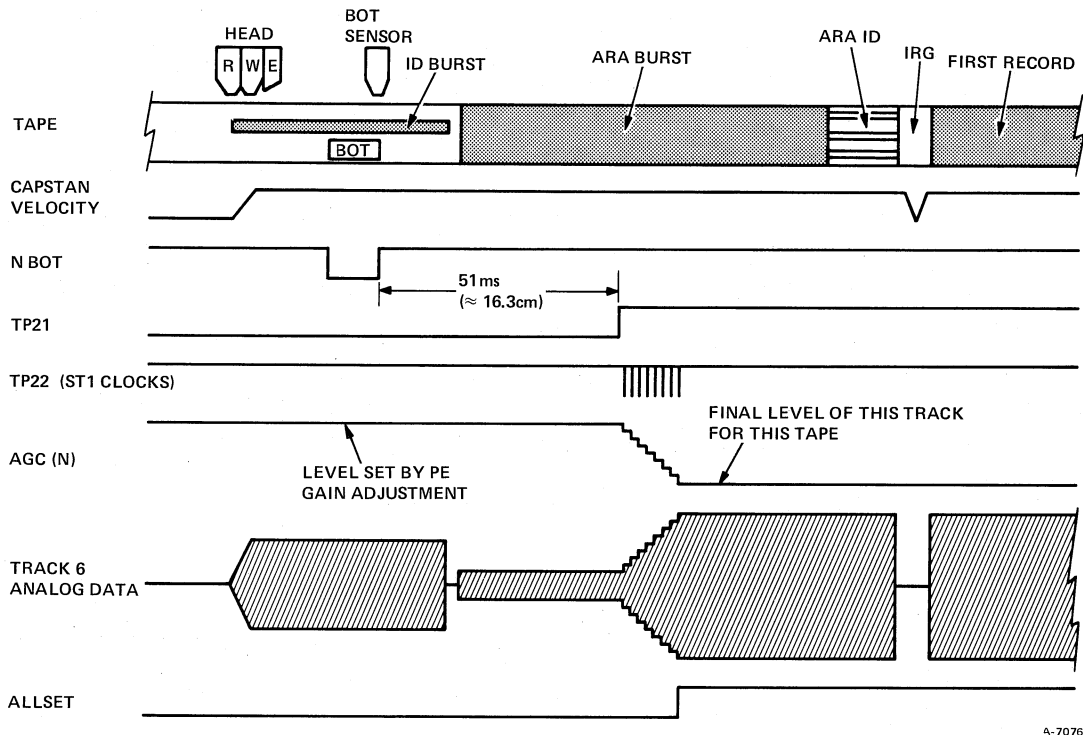

Figure 5-36 AGC Timing
5.11.5.3 Automatic Gain Control (AGC) Circuits – The read PCBA AGC function is initiated and controlled by circuits shown on Sheets 3 through 6 of Schematic Number 107855. Refer to Figure 5-35 for a simplified functional block diagram of the AGC circuitry. Figure 5-36 shows the timing sequence for AGC setup relative to information recorded at or near the BOT marker on a GCR tape. If unfamiliar with GCR recording formats, refer to Paragraph 4.1.2 of the TM78 Magnetic Tape Formatter Technical Manual (EK-OTM78-TM).